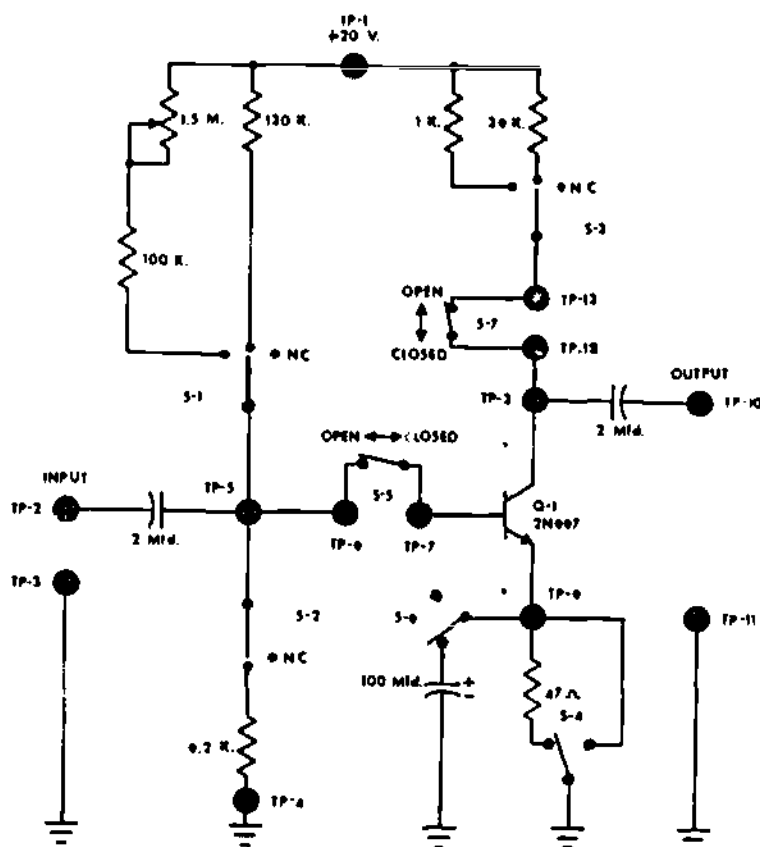

Figure 31-11.
b. Preset the switches on the trainer for the circuit configuration shown in figure 31-11.
(1) Close S-5 and S-7 in the base and collector circuits.
(2) Select the 120 kohm biasing resistor using switch S1.
(3) Select the 6.2 kohm biasing resistor using switch S2.
(4) Select the 3.9 k ohm collector load resistor using switch S3.
(5) Select the 47 ohm series emitter lead resistor using S4 (move left).
(6) Select the emitter by-pass capacitor with S6 (move right).